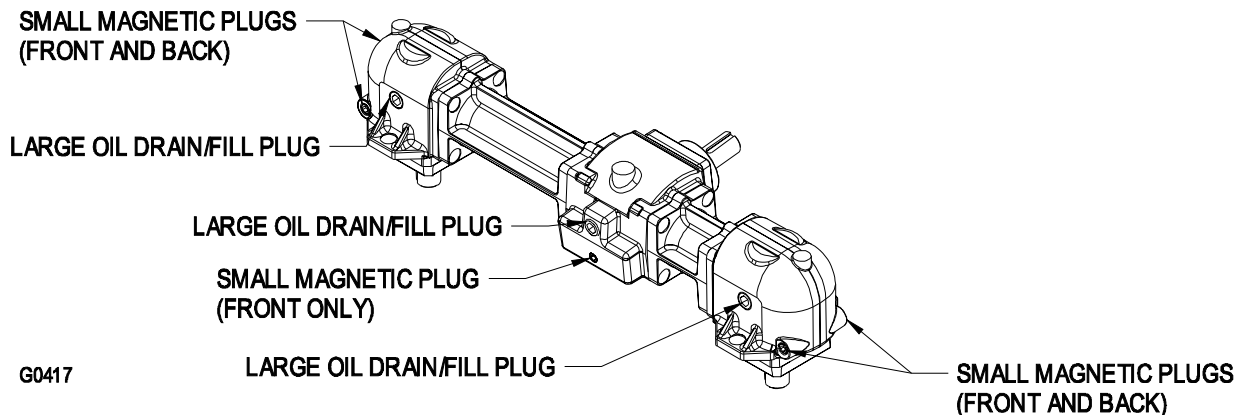

FIGURE 9
- Remove the large oil drain plug on the front of each of the 3 gearbox sections and drain oil. See Figure 9.
- Remove small magnetic plugs and wipe away any material accumulated on the plugs. See Figure 9.